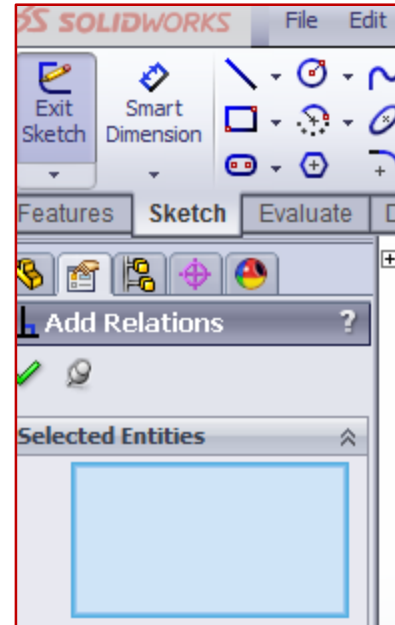

Figure 3.5 – Tools→Relations→Add Relations
- ✓ In the dialog box shown in Figure 3.5, verify that you have the blue box labeled **Selected Entities**.